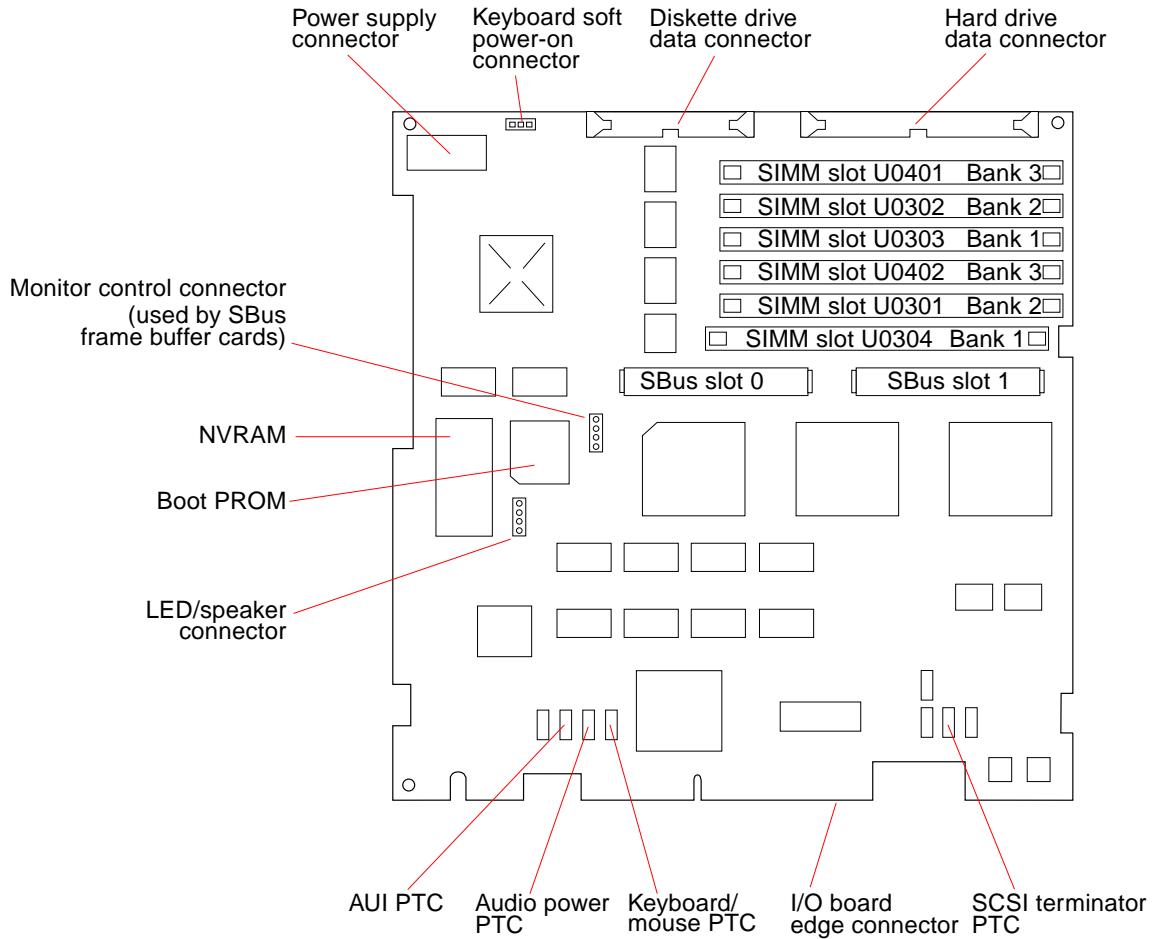

FIGURE 11-12 Main Logic Board Layout—SPARCclassic/SPARCclassic X
There are no voltage test points on the main logic board. If you need to measure voltages, the safest place is at the power supply connection on the main logic board (see FIGURE 11-12 and FIGURE 11-13). See Section 11.4.2 “Before Replacing the Main Logic Board” on page 11-21 for the connector wiring and voltages.
- a. **Make sure that all SIMMs are correctly seated, the power supply harness is connected to the main logic board, and all replaceable chips on the board are correctly seated in their sockets. (See FIGURE 11-12 and FIGURE 11-13 for SIMM locations.)**
For connector locations, refer to FIGURE 11-12 and FIGURE 11-13 in Section 11.4 “Main Logic Board” on page 11-17.